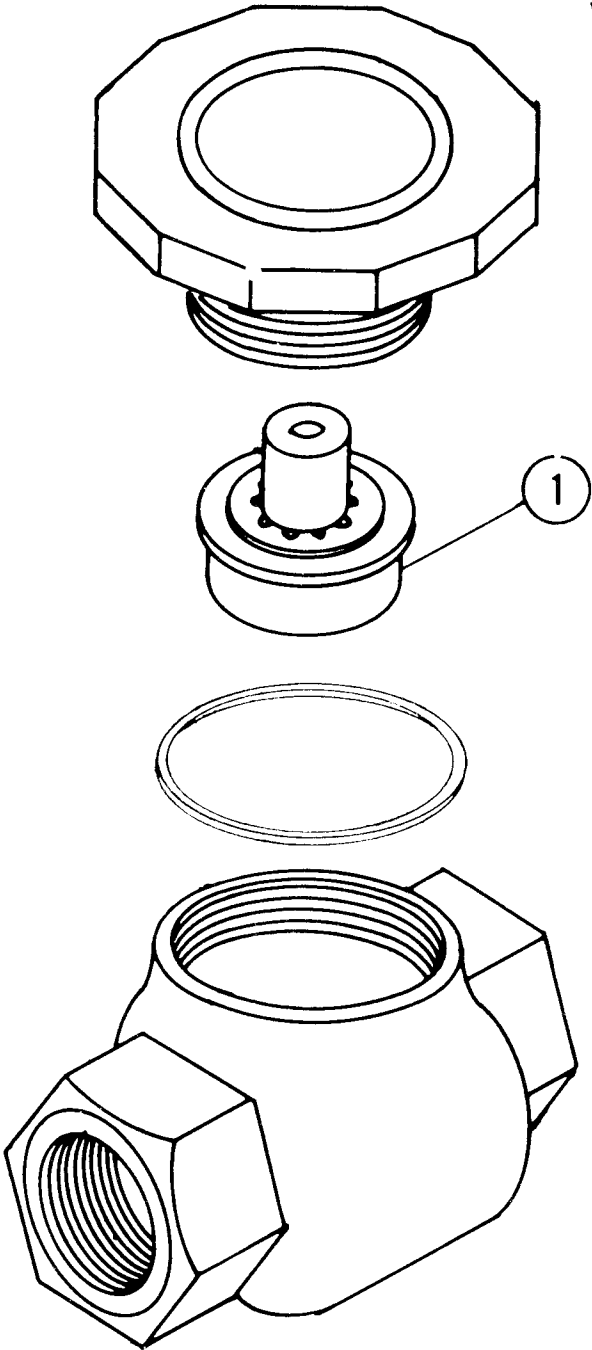

Figure 7.5.5
1. Remove screw (1) on top of solenoid coil housing.
7.5.5 Overhaul Vacuum Breaker (See Figure 7.5.5)